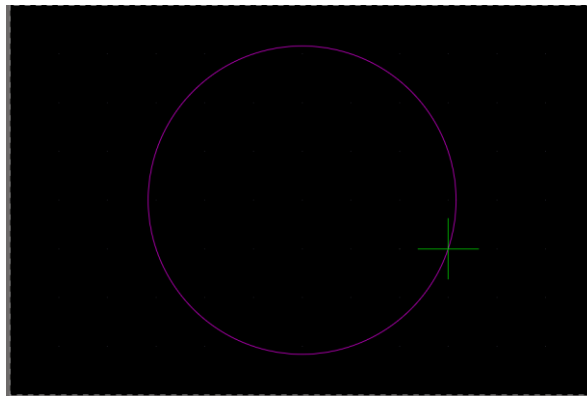

Figure 5. Placing a circle in the PCB workspace
- Click the right-mouse button to terminate the command. Your PCB should now be similar to Figure 5. Your existing Board Shape may be different to the one you see at the image.